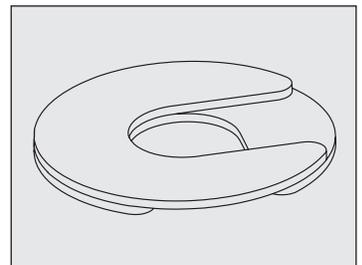

Fig. 7. Install multiple shims with offset slots.
- If more than one shim is used, be sure shim slots are offset. See fig. 7.
- **DO NOT** use more than four (4) shims on a castor.